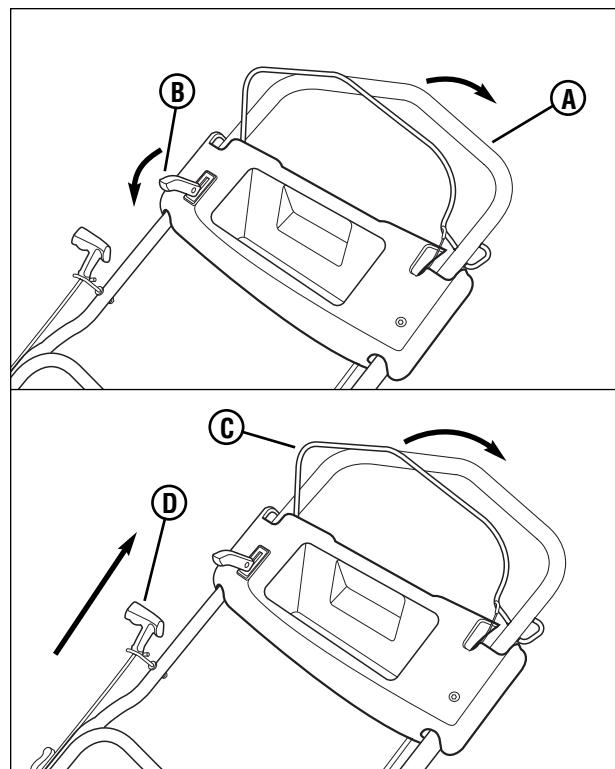

Figure 3: Starting the mower
1. Make sure the drive handle (A, **Figure 3**) is pulled fully back, and the drive handle lock lever (B) is pushed fully forward in the locked position.
2. Pull the blade control (C) against the handle.
3. Pull the rope start handle (D) to crank the engine.